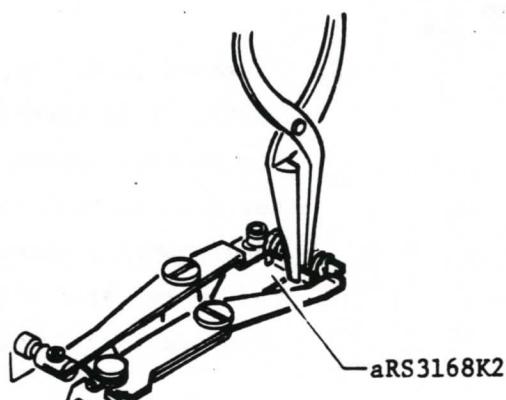

Fig. 81
* Adjust the clearance by bending the edge of No. 1 lever (aRS3168) as shown in Fig. 81.